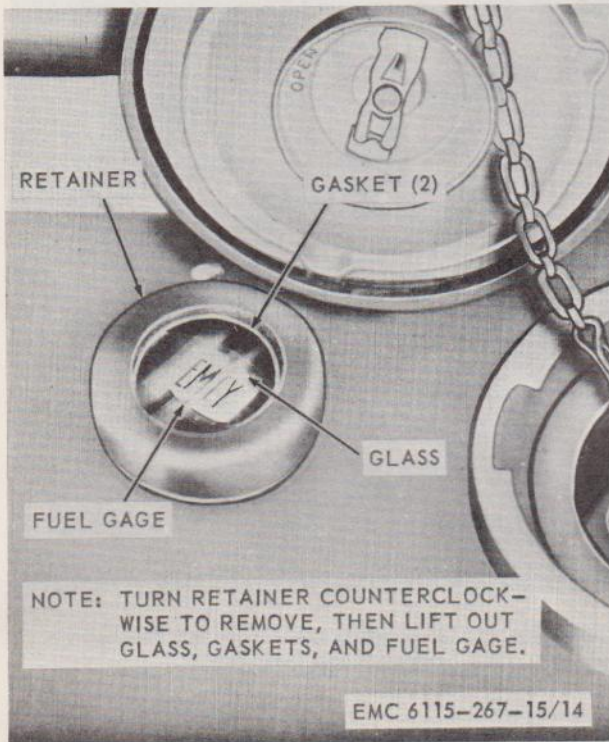

Figure 14. Fuel gage—removal and installation.
- (2) If the fuel plug cock leaks, disconnect the fuel hose and attach to an outside fuel source.
a. *Removal.* Refer to figure 14 and remove the fuel gage.
- (1) Clean all parts in an approved solvent and dry thoroughly.
- (2) Inspect fuel gage for cracks, dents, broken glass, and damaged threads.
- (3) Replace all defective parts.
c. *Installation.* Refer to figure 14 and install the fuel gage.